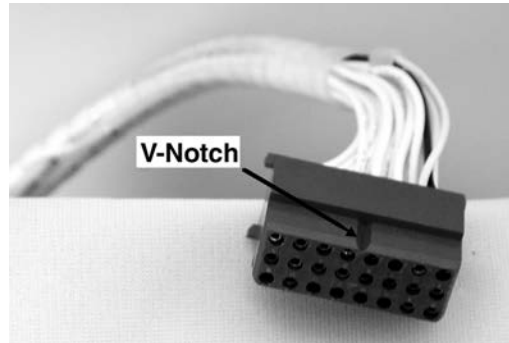

Figure 11 M-2001 Harness "V" Notch Connector
■ **NOTE:** The blue connector is keyed by a "V" notch in the middle to prevent incorrect mating (Figure 11). Check location of the key before plugging connector into the M-2001.